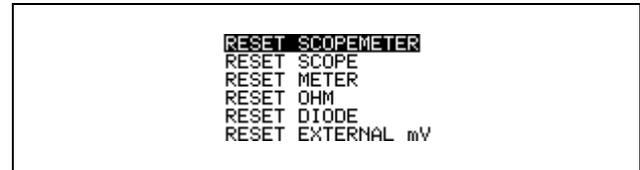

Figure 6-11 Reset Menu Window
1. From the User Options menu, press (F2) to open the RESET MENU (see Figure 6-11).